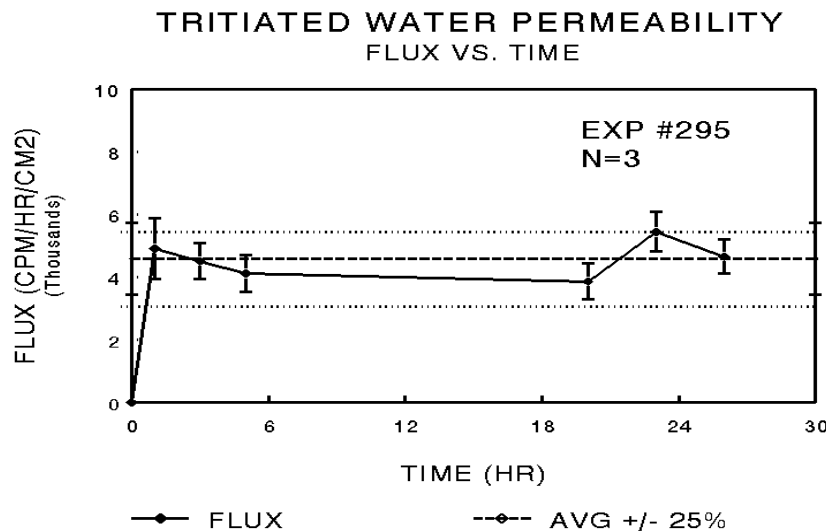

Figure 2: Flux versus Time Plot Showing Average Calculated Flux With Error Bars of +/- 25%. Steady state reached after 0.5 hrs.
i) **Determination of average flux:** At some point during the experiment, steady state should be achieved, i.e. the flux should become constant ( $\pm 20\%$ ). The average flux is computed by averaging the flux over all the time intervals once steady state has been reached. *Note: If the permeation times suggested above in e) are utilized, the overnight interval (between 5.0 and 21.0 hrs) will often show a different permeation value than the others. If the overnight flux differs by more than 25% from the average, it should be ignored and not used in the calculation of the average steady state flux. A typical flux versus time plot is shown in Figure 2.*